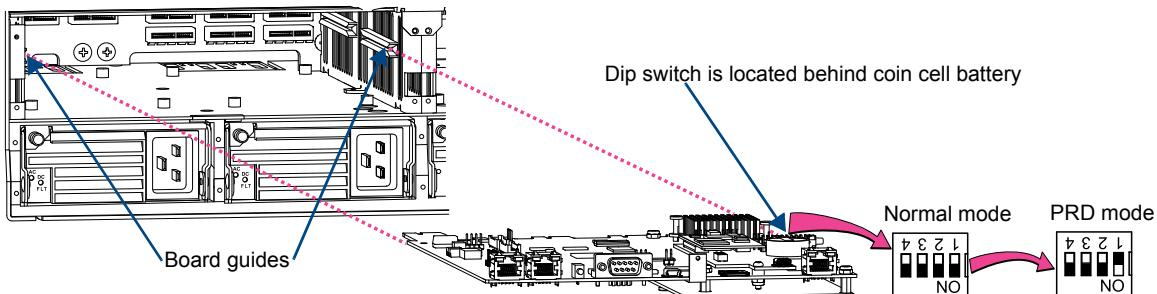

FIG. 135 Set Position #1 DIP switch to ON
- Slowly slide the CPU board back into the empty slot, being careful to align the edges in the board guides along the insides (FIG. 135).